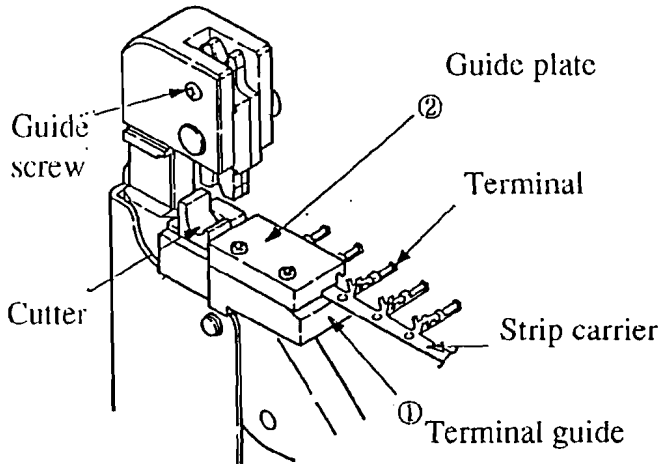

Fig.2
Position the upper die so that the tail of the guide screw is inserted in the guide groove of the upper die (on the insulation barrel side). <Refer to Fig. 2.> The die cannot be set when oppositely mounted.
Insert the strip carrier of the chain terminals in between the ① terminal guide and ② guide plate. Insulation barrels should be positioned in the groove of the ② guide plate. Feed the chain terminals until the insulation barrel of the first terminal comes to the center of the crimping position, while holding the strip carrier by fingers, lightly pressing it forward notch by notch. Refer to Fig. 2 and